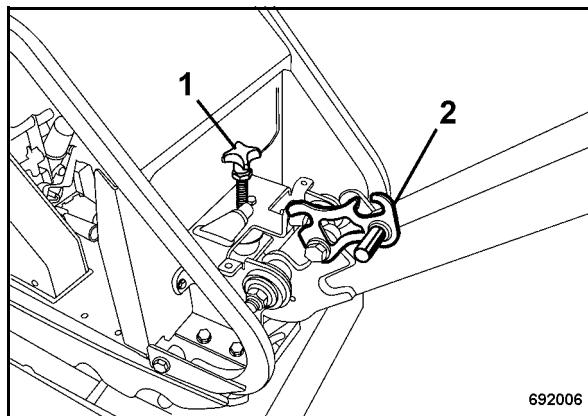

Fig. 13
- Pull the locking pawl lever (2) (Fig. 13) and lower the steering rod, so that it can swing freely.
- Adjust the steering rod with the height adjustment (1) to the height of your body.